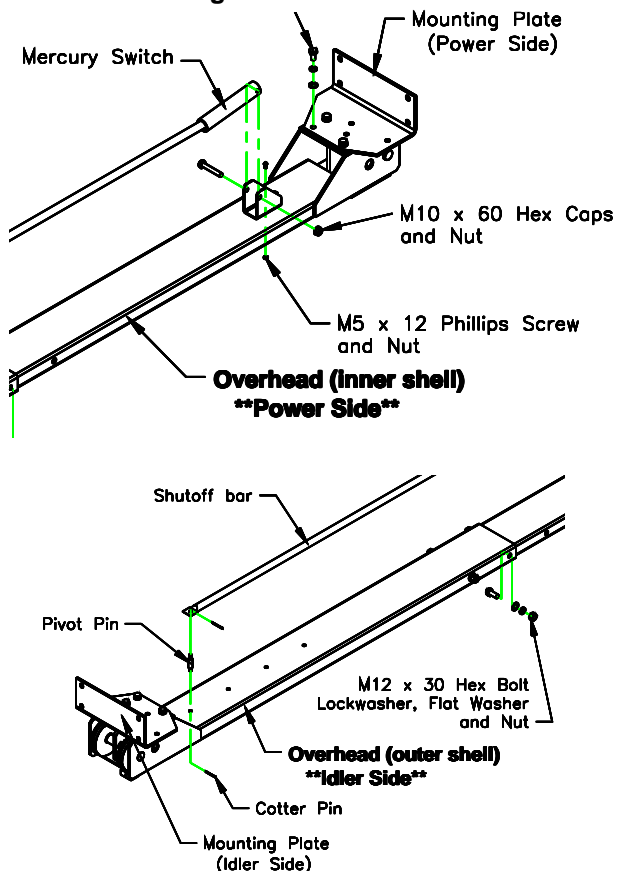

Fig 5 - Symmetric Overhead Assembly
- The Overhead is packaged in the Narrow setting. Remove the M12 hardware and re-assemble at the desired width. The M12 hardware must be assembled as shown to avoid interference with the synchronizing cables. Assemble the overhead shutoff bar, mercury switch, bracket and mounting plates as seen in **Fig 5**.
- 13) The Overhead is packaged in the Narrow setting. Remove the M12 hardware and re-assemble at the desired width. The M12 hardware must be assembled as shown to avoid interference with the synchronizing cables. Assemble the overhead shutoff bar, mercury switch, bracket and mounting brackets as seen in Figs 5 & 6.